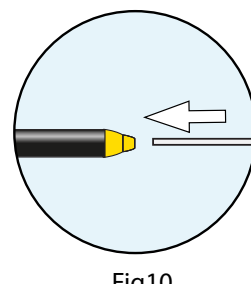

Fig 10.
8. Push the other end of the carbon fibre rod into the yellow connector on the arm section. (Fig 10)